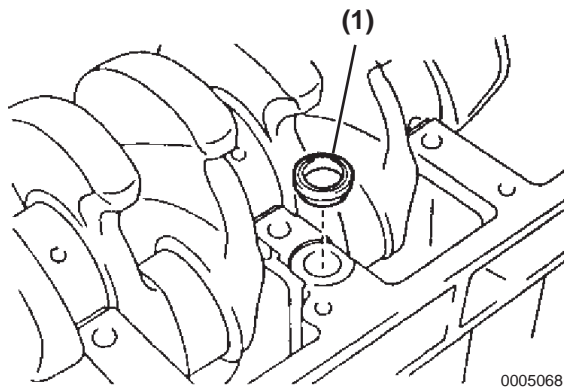

Figure 5-145
10. Install a new oil hole gasket (**Figure 5-145, (1)**).